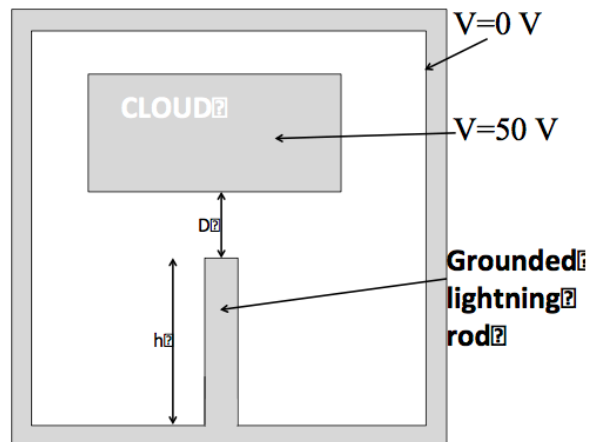

Figure 5 Cloud over grounded lightning rod model
- Here you are free to choose the size of the cloud and the enclosure as you see fit (the proportions should roughly look like that in Figure 5). Turn in a picture of your geometry with dimensions in **slide 11**.